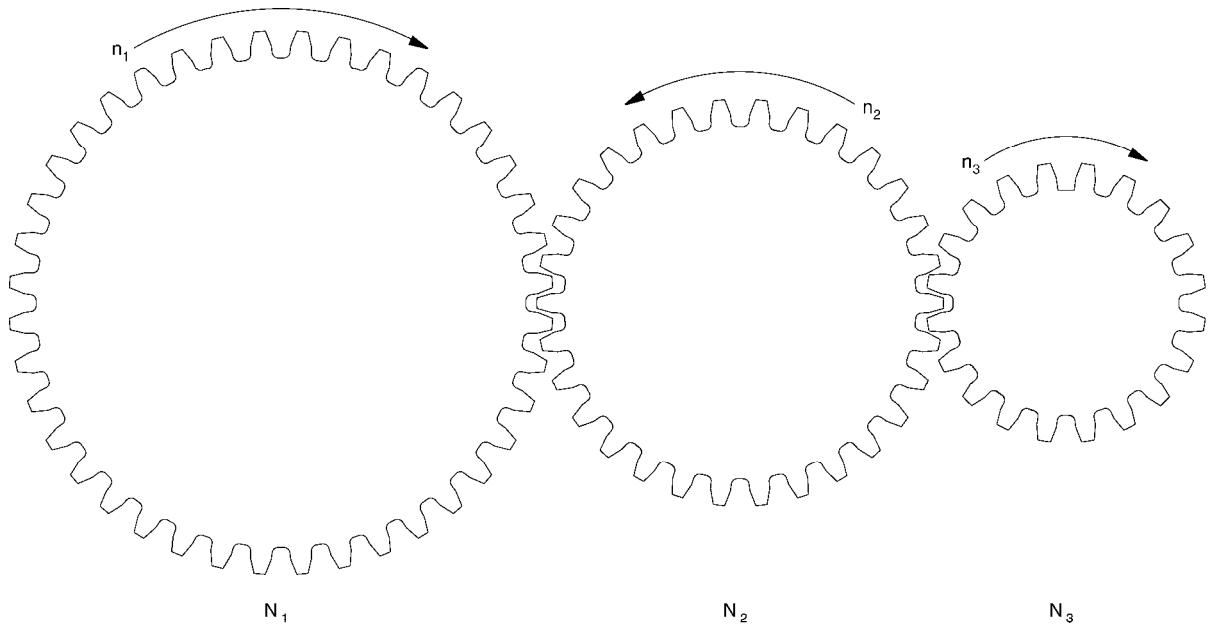

Figure 7-1. Simple gear train.
- 3. Given that, in Figure 7-1, the speed of gear N_3 is calculated with the equation $n_3 = n_1 \frac{N_1}{N_3}$, what can you conclude about the influence of gear N_2 on the speed of gear N_3 ?